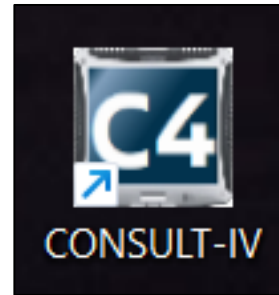

Figure 3
9. Start the CONSULT 4 (C4) program by selecting the C4 icon on the desktop or taskbar (Figure 3).